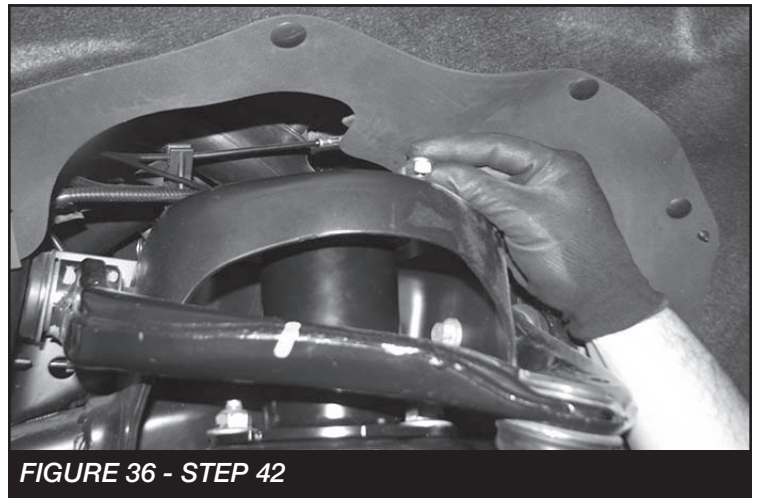

FIGURE 36 - STEP 42
37. Install the coil over into the frame bucket using the supplied 7/16" washers and nuts. Torque 59 ft-lbs. **SEE FIGURE 36**